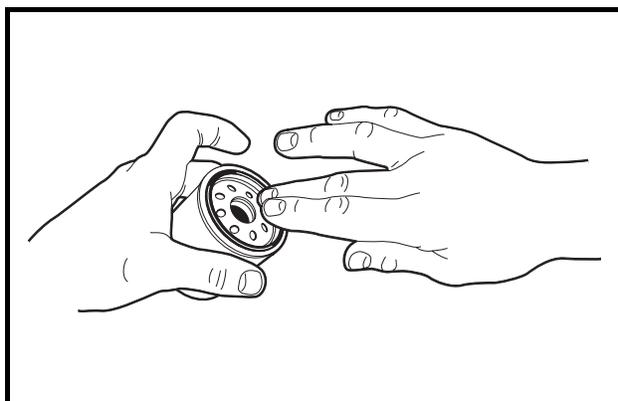

**Figure 27 Remove Engine Oil Filter**
9. Remove the engine oil filter (1), turning it counterclockwise, allowing the residual oil in the filter port and filter to drain into the oil drain pan (2) (**Figure 27**). **See following NOTE.**
**NOTE:** An oil drip guard (3) can be used to prevent excess oil from dripping into the engine base plate. Use an empty quart (one liter) container and cut the bottom off at an angle, then slide the open area of the container up and under the oil filter prior to removing. Position the port of the plastic container so oil will be directed into the oil pan. Or, make a drip guard by folding a piece of cardboard, thin metal, or plastic under the oil filter forming a channel to direct the filter port oil into the drain pan.